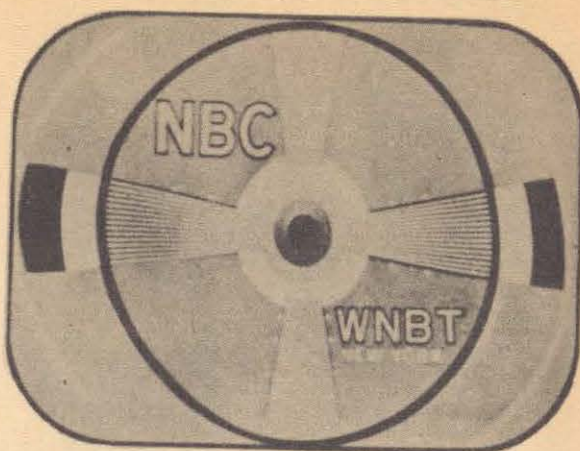

Fig. 18 Horizontal Linearity Control Misadjusted
**HORIZONTAL LINEARITY CONTROLS.** Figure 18 shows the effect of the misadjustment of horizontal linearity. It will be noted that the circle of the test pattern has been rendered elliptical or "egg shaped". The picture has been cramped in the middle.
Correction of distortion of various parts of the picture, in the horizontal direction, are accomplished by controls affecting the circuit elements which contribute these portions of the scanning current wave. In the case illustrated by Figure 18, correction could be made by horizontal linearity control or a similar adjustment for correcting the center of the picture without affecting the sides. Additional linearity controls may be employed to correct the right hand side of the picture.